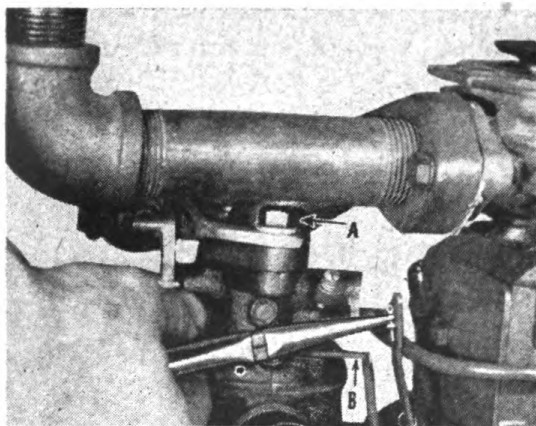
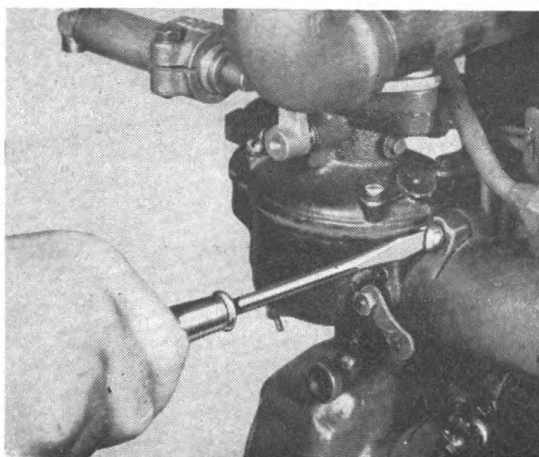

Figure 101
Figure 102
(2) Disconnect fuel line from carburetor inlet elbow.
(3) Remove cotter pin holding governor control rod in hole in governor lever (See Figure 101).
(4) Remove two screws ("A" Figure 101) holding carburetor to intake manifold.
(5) Loosen screw holding air intake pipe to carburetor (See Figure 102).
NOTE: Before removing screw holding choke return spring clip ("B" Figure 101), it is advisable to mark its position so that it can be reassembled in the same notch.
(1) Slip air inlet of carburetor into air intake pipe. Replace two screws ("A" Figure 101), and tighten screw holding air intake pipe to carburetor (See Figure 102).
(2) Place governor control rod in hole in governor lever and insert cotter pin (See Figure 101).
(3) Connect fuel line to carburetor inlet elbow.
Be sure choke snaps open readily when engine is started. If not, it may be necessary to change position of choke return spring clip ("B" Figure 101).